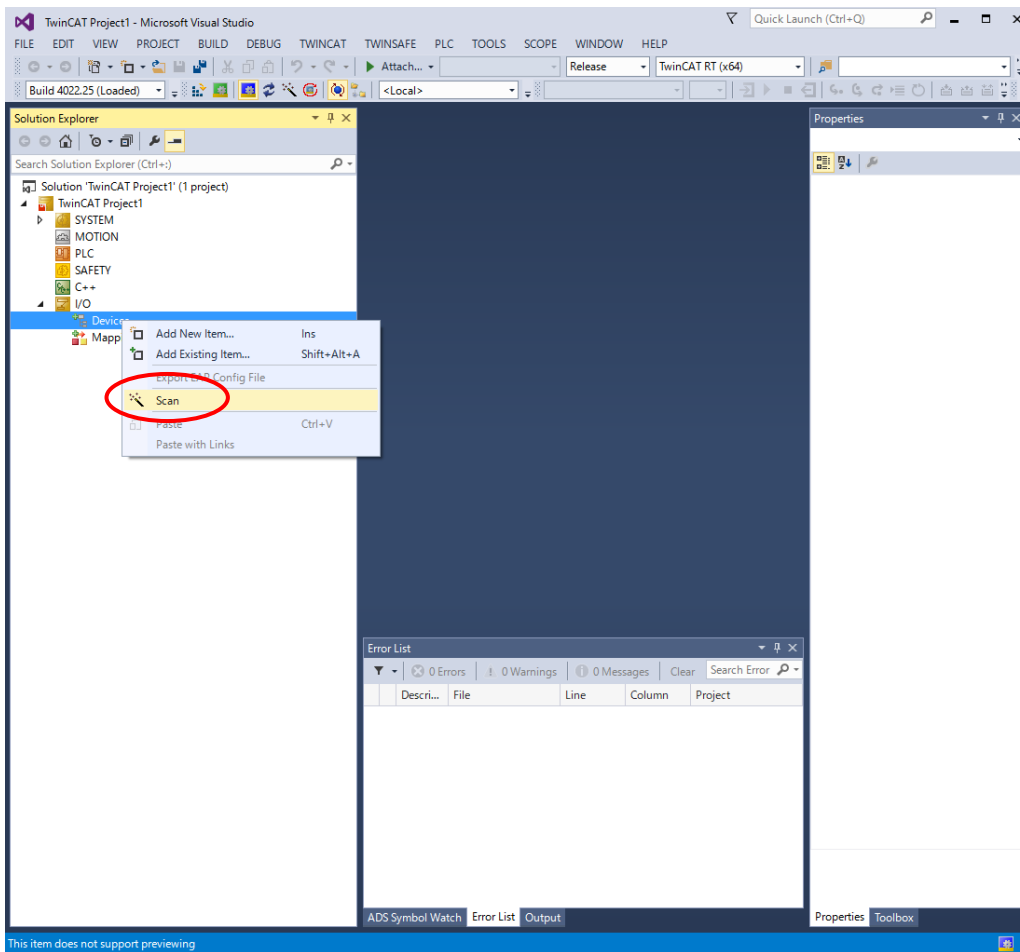

Figure 4-3 Scanning the network for new devices
## (3) Right-click [Devices] and select [Scan] (Figure 4-3)